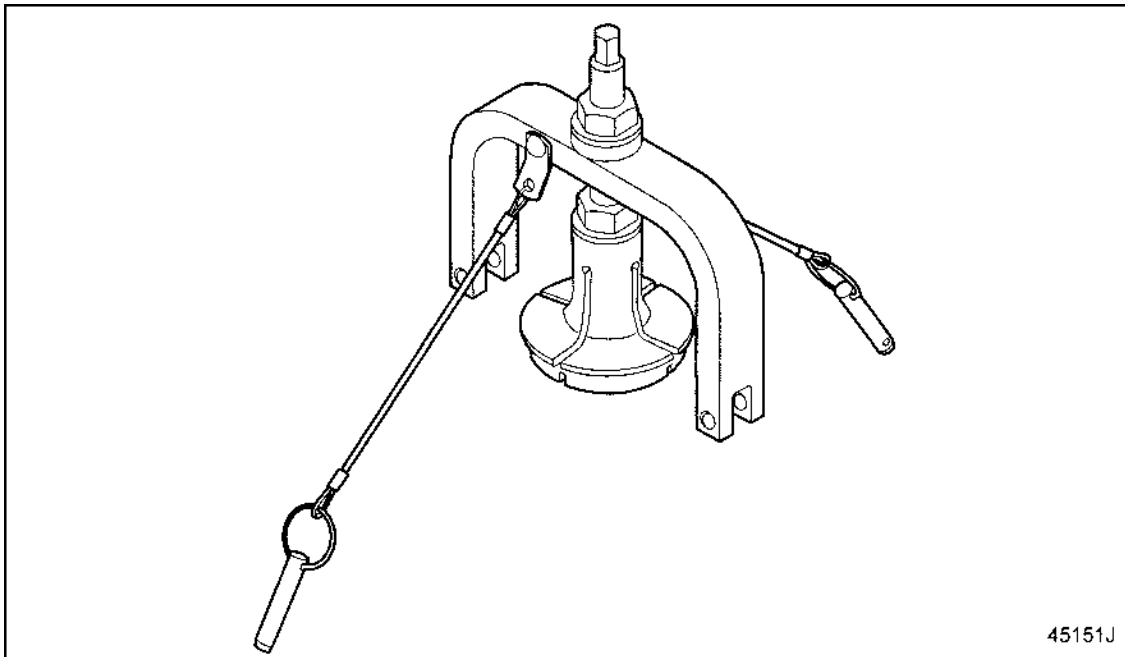

Figure 5 EGR Cooler Insert Removal Tool J-47195
2. Remove spherical insert from EGR cooler with Kent-Moore® tool J-47195. See Figure 5. Take care not to damage the EGR cooler when removing the insert. Discard the insert.